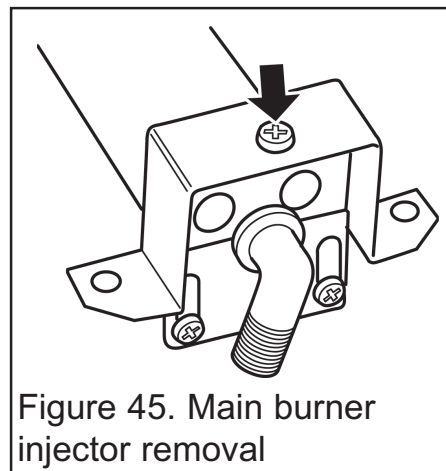

Figure 45. Main burner injector removal
**2.** Remove the burner clamping screw (See figure 45)